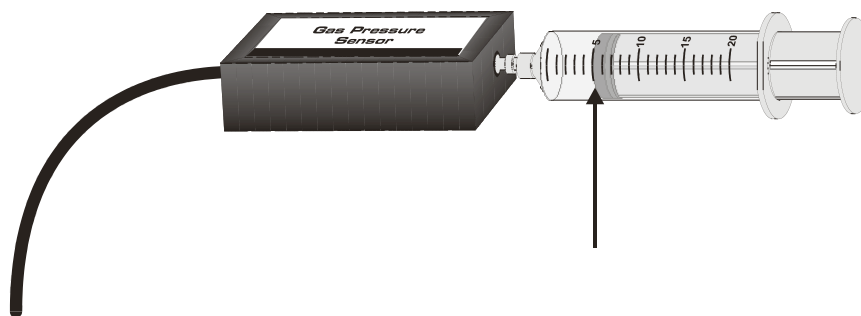

Figure 2
- b. With the 20 mL syringe disconnected from the Gas Pressure Sensor, move the piston of the syringe until the front edge of the inside black ring (indicated by the arrow in Figure 2) is positioned at the 10.0 mL mark.
- a. Move the piston to position the front edge of the inside black ring (see Figure 2) at the 5.0 mL line on the syringe. Hold the piston firmly in this position until the pressure value stabilizes.